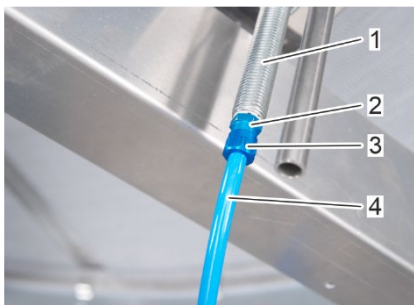

Fig. 62: Secure the compressed air hose
5. Secure the compressed air hose (Fig. 62/4) on the compressed air nozzle (Fig. 62/1) by screwing the union nut (Fig. 62/3) onto the screw-in stud (Fig. 62/2).